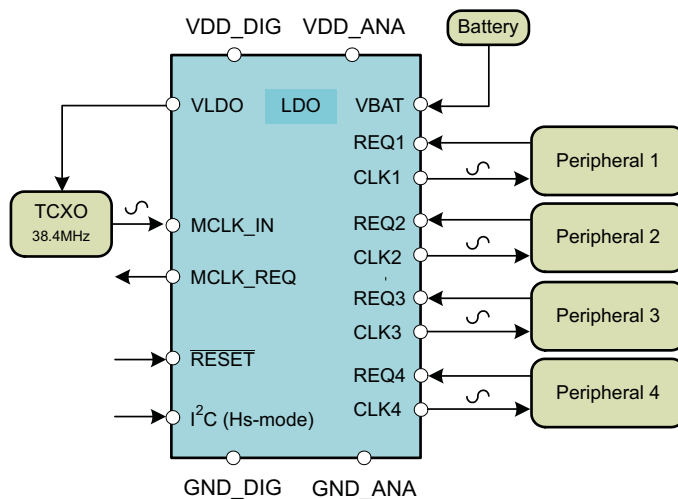

**Figure 26. Clock Output Enable Signal**
(4) Inactive as long as the REQxPRIO bit is low, external REQx pins are valid (see Figure 26)
(5) Writing data beyond 03h may affect device function.